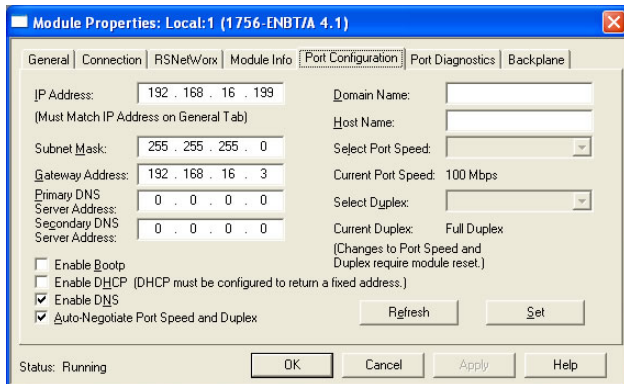

Figure 81: Confirming the Module's Properties
- 11) Confirm that the IP Address, Subnet Mask and Gateway Address fields are configured correctly. The IP Address must match the IP Address entered when the new module was first created. Refer to Figure 81.